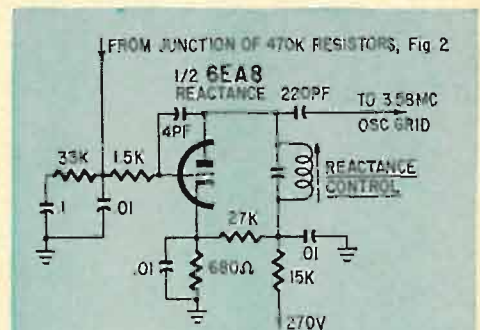

Fig. 3—Reactance tube thinks it's a coil or capacitor! Controls 3.58-mc oscillator. Some TV's used this to control horizontal oscillator.
3. Reactance tube (Fig. 3), which certainly should be familiar to all the old-timers. The same circuit is used in lots of older TV sets, to control the horizontal oscillator! Afc, in other words.